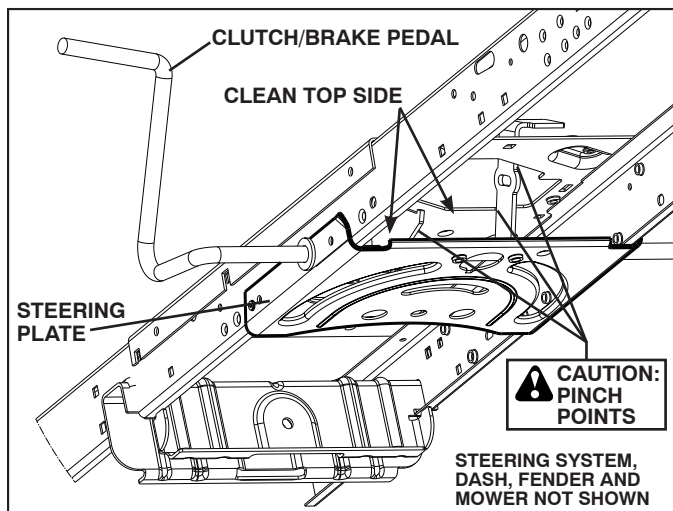

Fig. 18
**CAUTION: Avoid all pinch points and movable parts (See Fig. 18)**